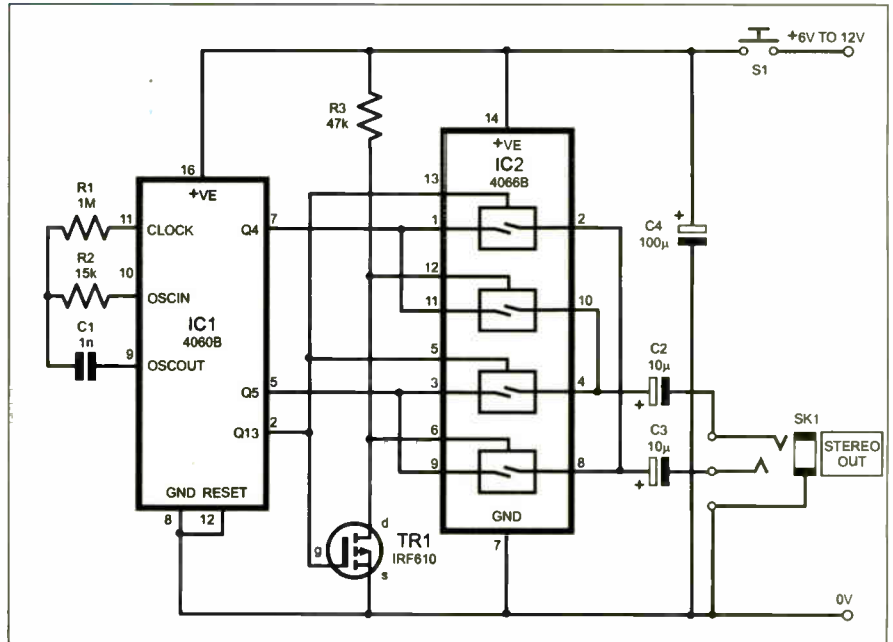

Fig.3. Circuit diagram for creating an audio illusion
**T**HE circuit pictured in Fig.3 is a revamped version of one which appeared in *IU* some years ago. It is a classic auditory illusion that has had psychologists and neuroscientists puzzled for decades. Unlike the original circuit, which required three oscillators, this circuit uses just one. Also, it perfectly fulfils the theoretical requirements of the illusion by automatically generating the three frequencies required.